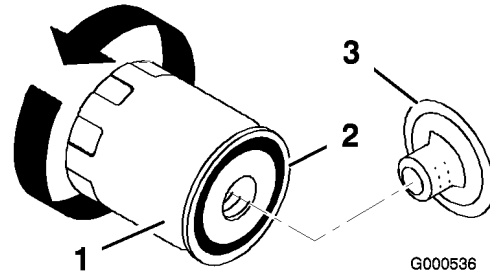

Figure 27
9. Change the oil filter, if necessary (Figure 27).
2. Remove the old filter and wipe the filter adapter gasket surface (Figure 27).
3. Apply a thin coat of clean oil to the rubber gasket on the replacement filter (Figure 27).
4. Install the replacement oil filter to the filter adapter. Turn the oil filter clockwise until the rubber gasket contacts the filter adapter; then tighten the filter an additional 1/2 to 3/4 turn (Figure 27).